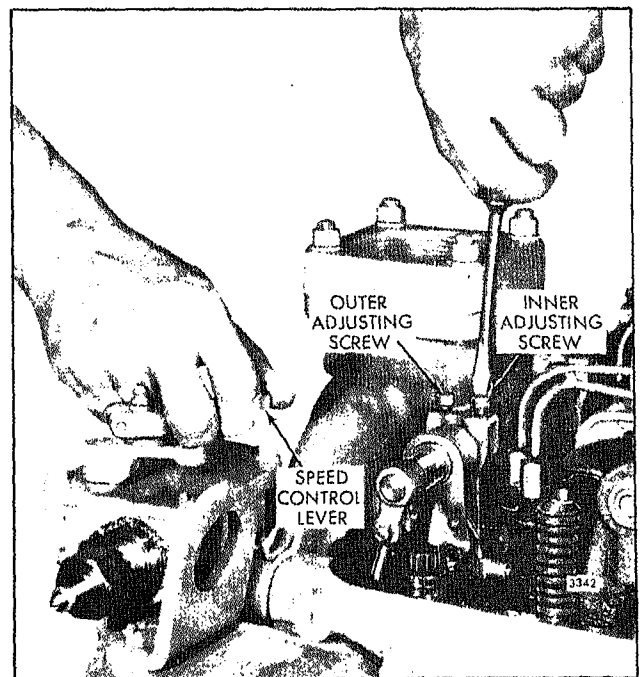

Fig. 2 - Positioning the Rear Injector Rack Control Lever
4. Loosen all of the inner and outer injector rack control lever adjusting screws (Fig. 2). Be sure all of the levers are free on the injector control tube.